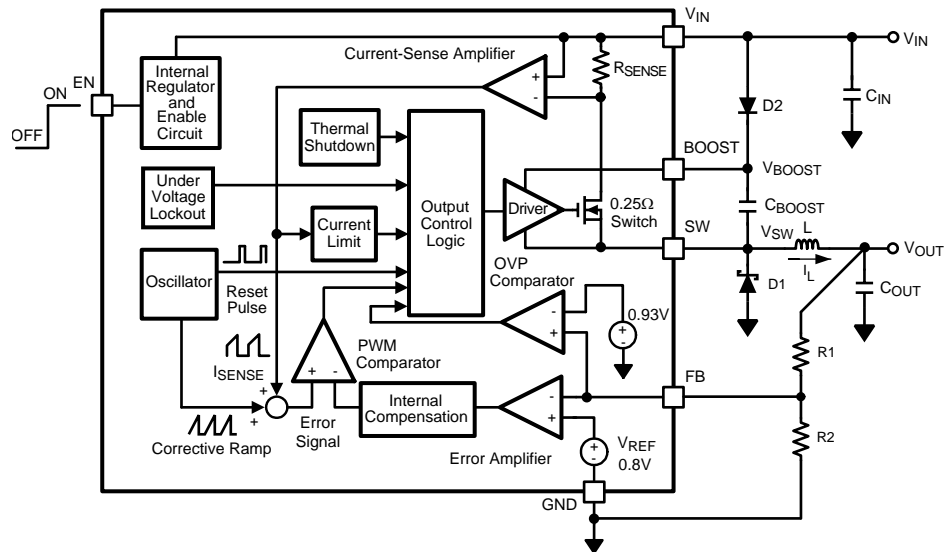
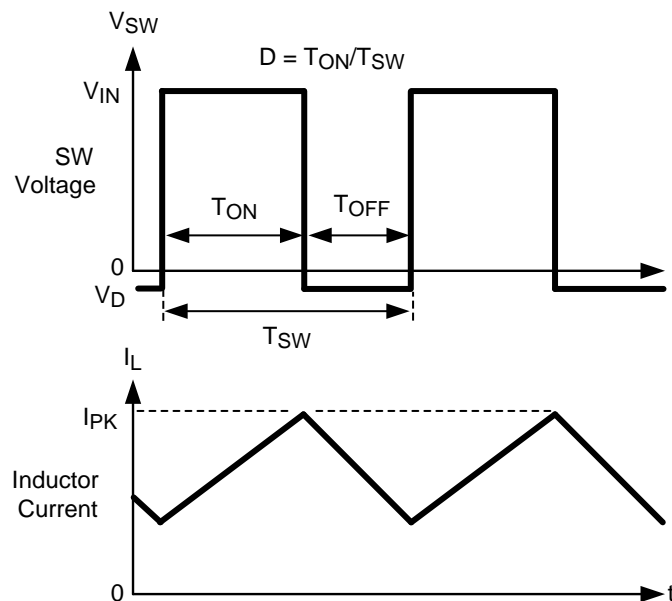

Figure 27. Simplified Internal Block Diagram
Figure 28. LM2738 Waveforms of SW Pin Voltage and Inductor Current
The following operating description of the LM2738 will refer to the Simplified Block Diagram (Figure 27) and to the waveforms in Figure 28. The LM2738 supplies a regulated output voltage by switching the internal NMOS control switch at constant frequency and variable duty cycle. A switching cycle begins at the falling edge of the reset pulse generated by the internal oscillator. When this pulse goes low, the output control logic turns on the internal NMOS control switch. During this on-time, the SW pin voltage (V_{SW}) swings up to approximately V_{IN} , and the inductor current (I_L) increases with a linear slope. I_L is measured by the current-sense amplifier, which generates an output proportional to the switch current. The sense signal is summed with the regulator's corrective ramp and compared to the error amplifier's output, which is proportional to the difference between the feedback voltage and V_{REF} . When the PWM comparator output goes high, the output switch turns off until the next switching cycle begins. During the switch off-time, inductor current discharges through Schottky diode D1, which forces the SW pin to swing below ground by the forward voltage (V_D) of the catch diode. The regulator loop adjusts the duty cycle (D) to maintain a constant output voltage.
In the Simplified Block Diagram of (Figure 27), capacitor C_{BOOST} and diode D2 supply the gate-drive voltage for the NMOS switch. Capacitor C_{BOOST} is charged via diode D2 by V_{IN} . During a normal switching cycle, when the internal NMOS control switch is off (T_{OFF}) (refer to Figure 28), V_{BOOST} equals V_{IN} minus the forward voltage of D2 (V_{FD2}), during which the current in the inductor (L) forward biases the Schottky diode D1 (V_{FD1}). Therefore the voltage stored across C_{BOOST} is